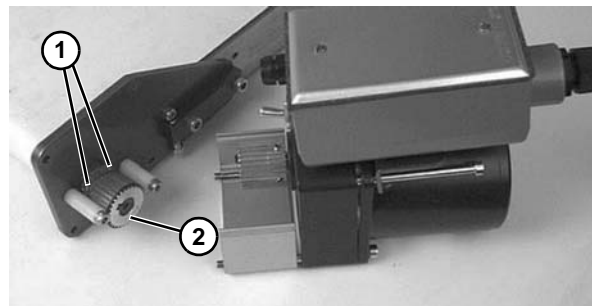

Figure 50
5. Loosen set screws (Figure 50, item 1) and remove driven pulley (Figure 50, item 2).